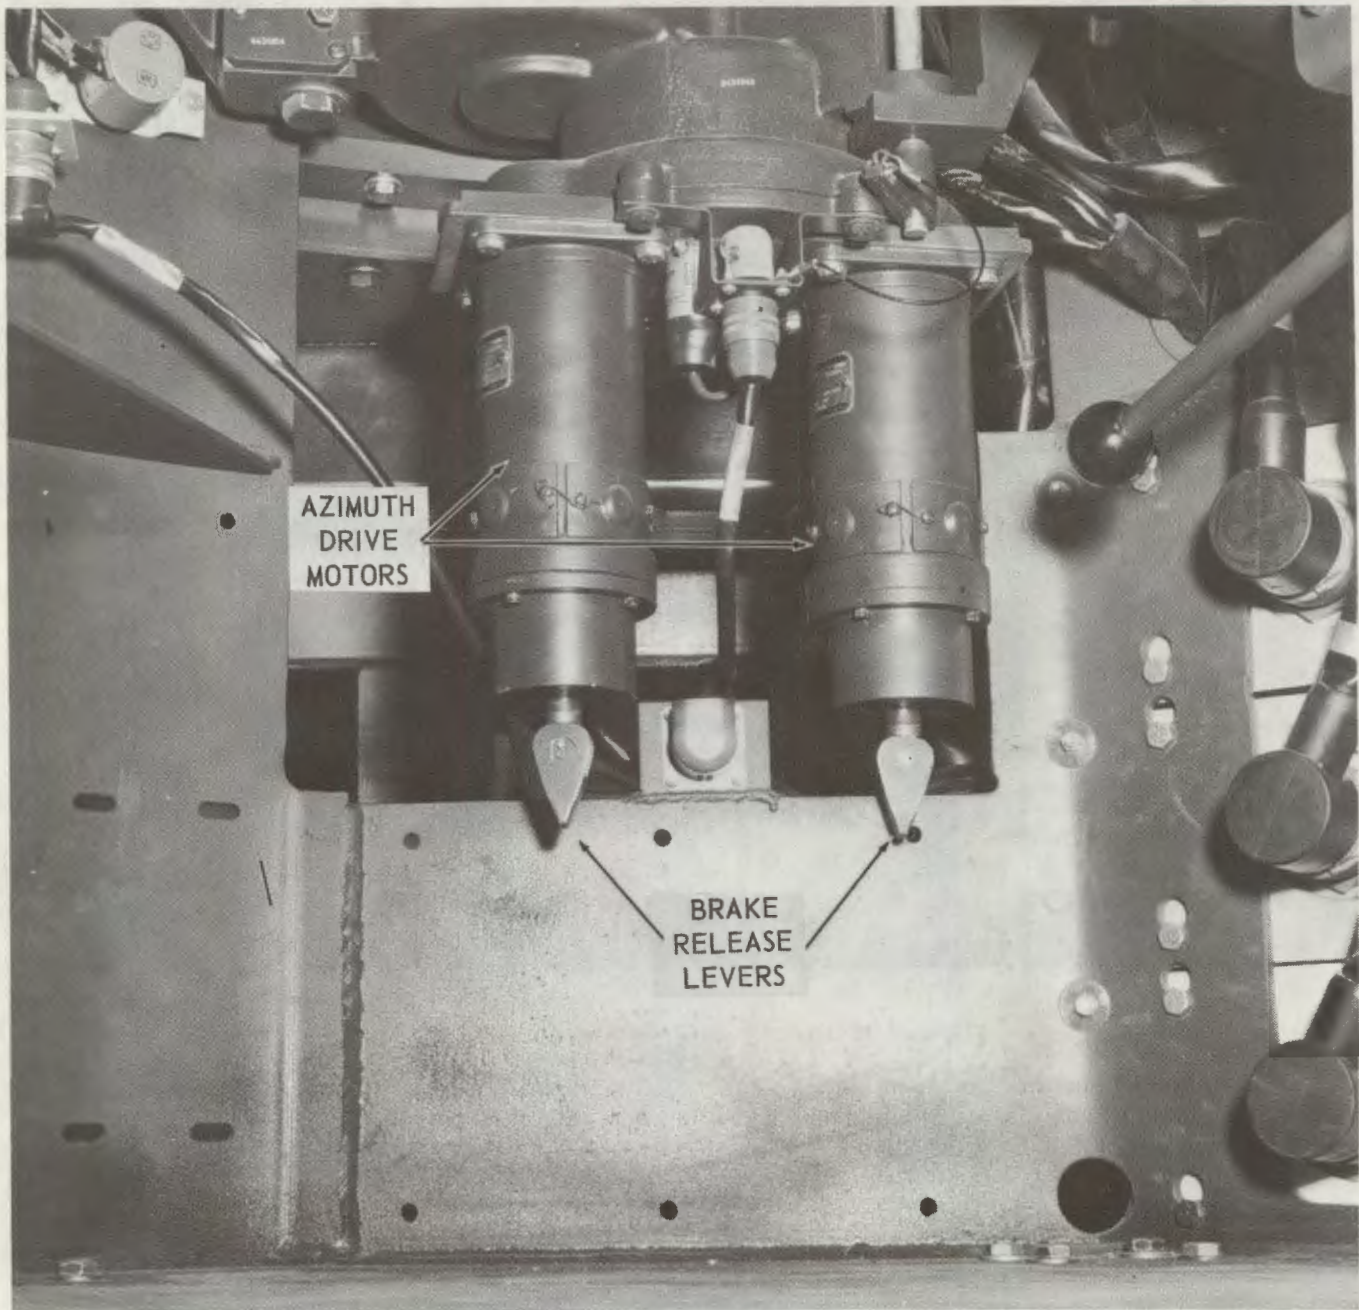

Figure 3-21. Azimuth drive motor brake release levers.
l. Azimuth Drive Motor Brake Release Levers (fig. 3-21). Provide a means for mechanically releasing both azimuth drive motor brakes.